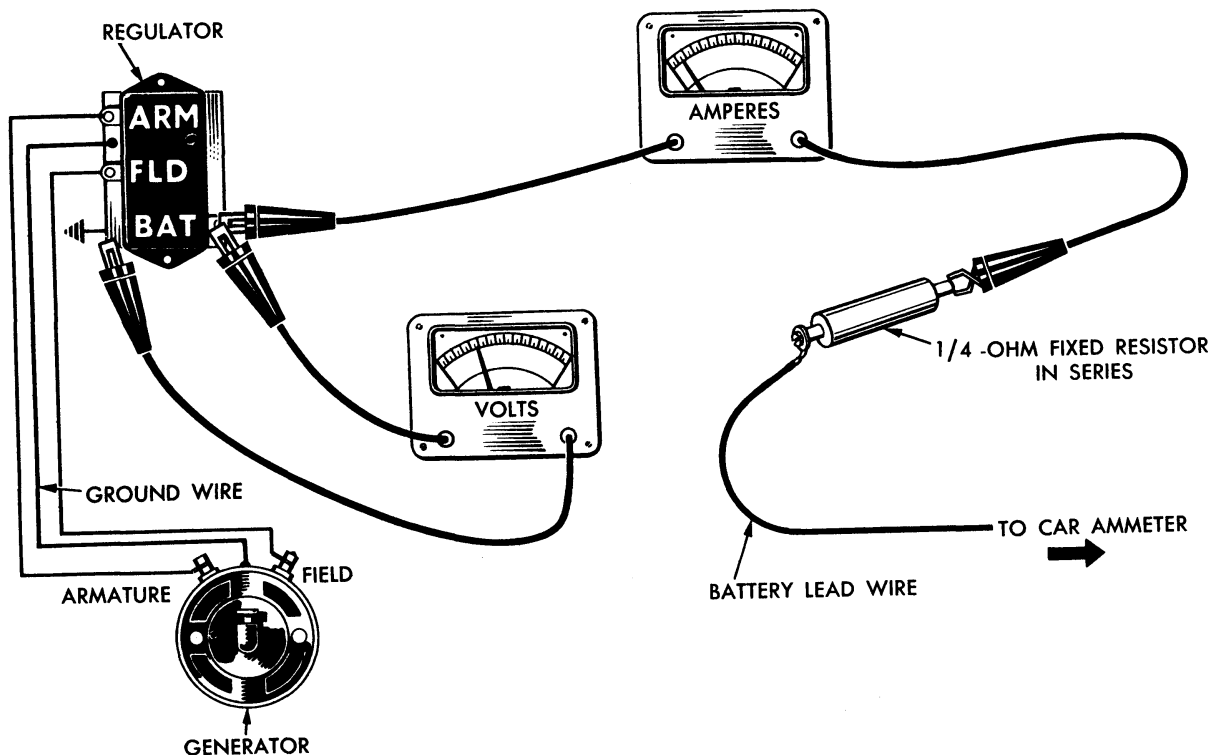

Fig. 10—Voltage Regulator Test
32. TESTING THE VOLTAGE REGULATOR SETTING (FIG. 10)